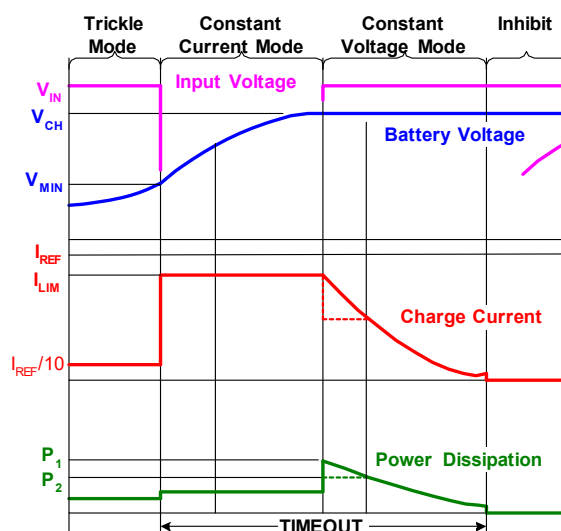

FIGURE 2. TYPICAL CHARGE CURVES USING A CURRENT-LIMITED ADAPTER.
Figure 2 shows the typical waveforms in a charge cycle of the dual mode operation. When the battery is below  $V_{MIN}$ , the charge current is 10% of  $I_{REF}$  set by the IREF pin. Since the charge current is much less than the  $I_{LIM}$ , the ac/dc converter operates in the voltage source region. Once the battery voltage exceeds  $V_{MIN}$ , the charger starts to fully turn on the internal P-channel power MOSFET. The ac/dc converter operates in the current-limited region and its voltage is pulled down to a level slightly higher than the battery voltage. As shown in Figure 2, the charge current is  $I_{LIM}$  and is lower than  $I_{REF}$ . As the battery voltage reaches the 4.2V  $V_{CH}$ , the charge current starts to decrease. The ac/dc supply moves out of the current-limit region and
The power dissipation is also shown in Figure 2. The power dissipation in both the trickle mode and the constant-current (CC) mode are very low. The possible peak power occurs at the transition from the CC mode to the constant-voltage (CV) mode. This peak power is much lower than the peak power normally seen in a linear charger and can be further reduced by properly designing the ac/dc converter. One simple approach is to design the ac/dc converter output voltage just high enough to fully charge the battery (normally lower than 5V). More information can be found in the ISL6292 datasheet. To ensure the thermal safety, the ISL6292B has an internal thermal fold-back function that automatically reduces the charge current if the internal temperature typically rises above 100°C.